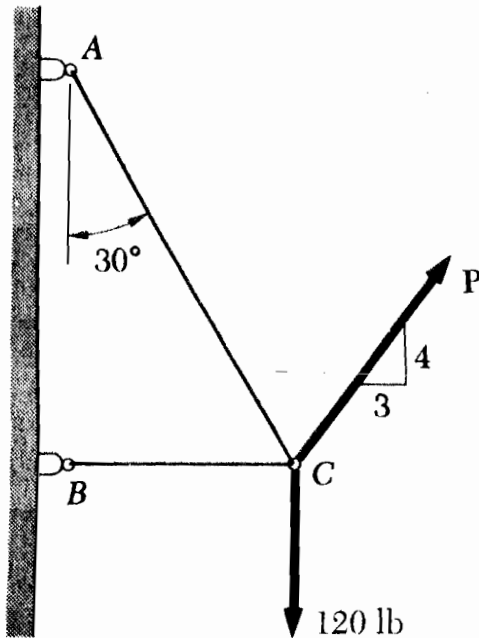

Fig. P1
- 1- Knowing that  $P = 100$  lb in Fig. P1, determine the tension in cables  $AC$  and  $BC$ . [Secs. 3.1 - 3.3] (15 pts.)